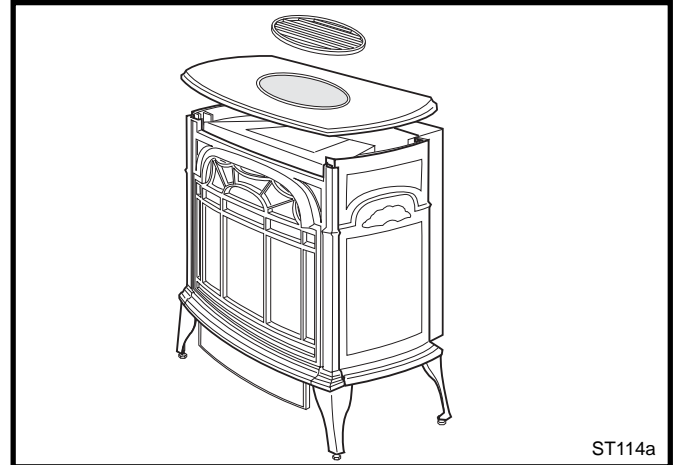

Fig. 35 Remove top plate, grille and screen.
2. Remove the top grille, screen and top plate. (Fig. 35)